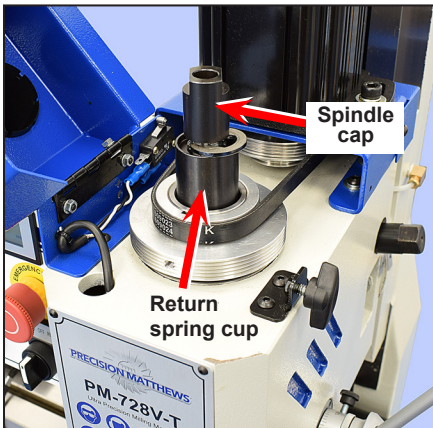

Figure 4-6 **Removing the special C-clip**
The quill should automatically retract when the coarse downfeed levers are released following a drilling operation. If it does not, check for binding in the quill lock. The return spring, Figure 4-7, is held by a spring cup which is locked to the spindle by a special C-clip beneath the spindle cap, Figure 4-6. Spring force is not adjustable.
4. Press down on the return spring cup while removing the C-Clip, Figure 4-6.